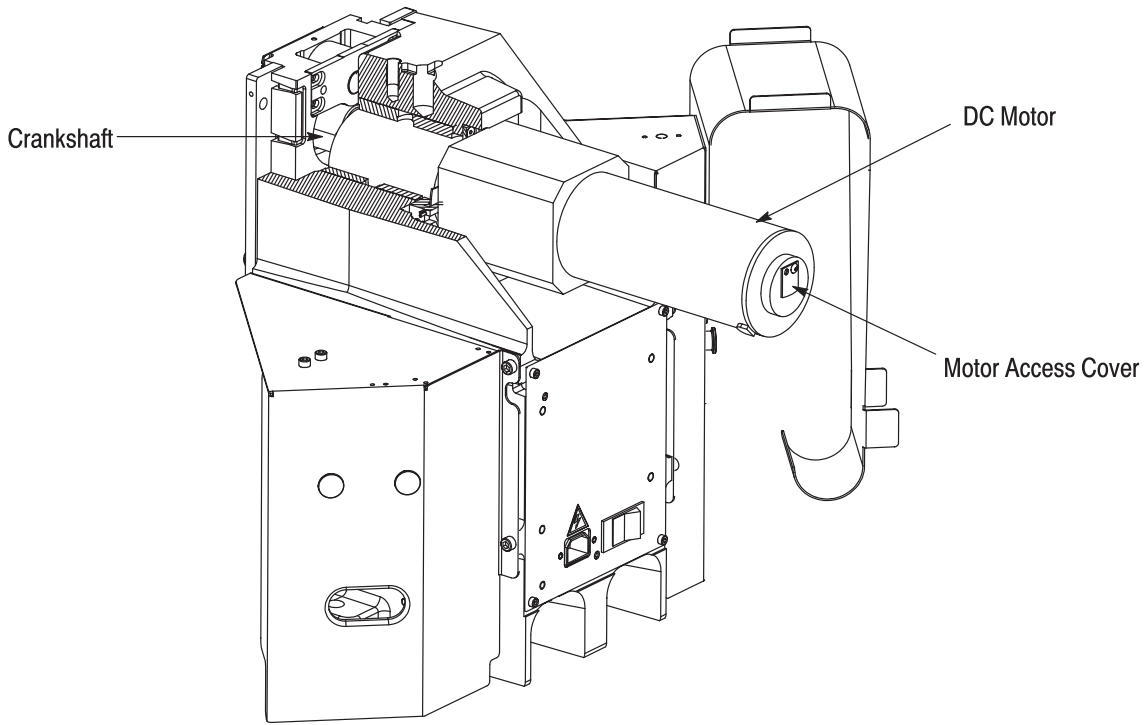

Figure 4
1. The **motor group** includes a dc motor which drives a crankshaft. The motor is activated each cycle and rotates the crankshaft one full revolution. A motor access cover, located on the end of the motor, covers a hex key which allows the motor to be cycled manually. See Figure 4.